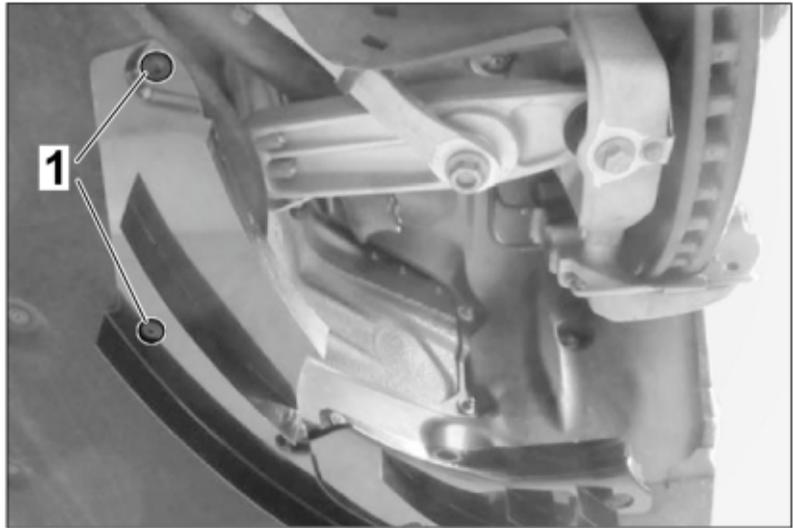

Figure 38
- 6.5.1 Fasten the air control element (front) to the underbody with two more ST4.8 x 19 TX27 tapping screws with collar (⇒ *Figure 38*).